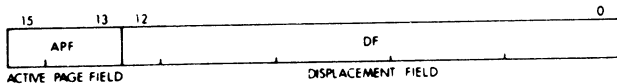

Figure 10-7 Interpretation of a Virtual Address
address (PA) comes from the virtual address (VA), and the appropriate APR set. Figure 10-7 illustrates the interpretation of a virtual address.